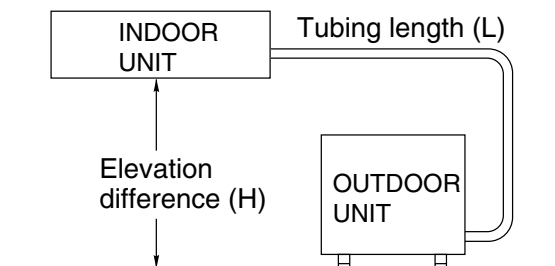

Fig. 37
Install unit within the maximum elevation different (H) above or below the outdoor unit and within a total tubing length (L) from the outdoor unit as detailed showed in Table 4 and Fig.37.